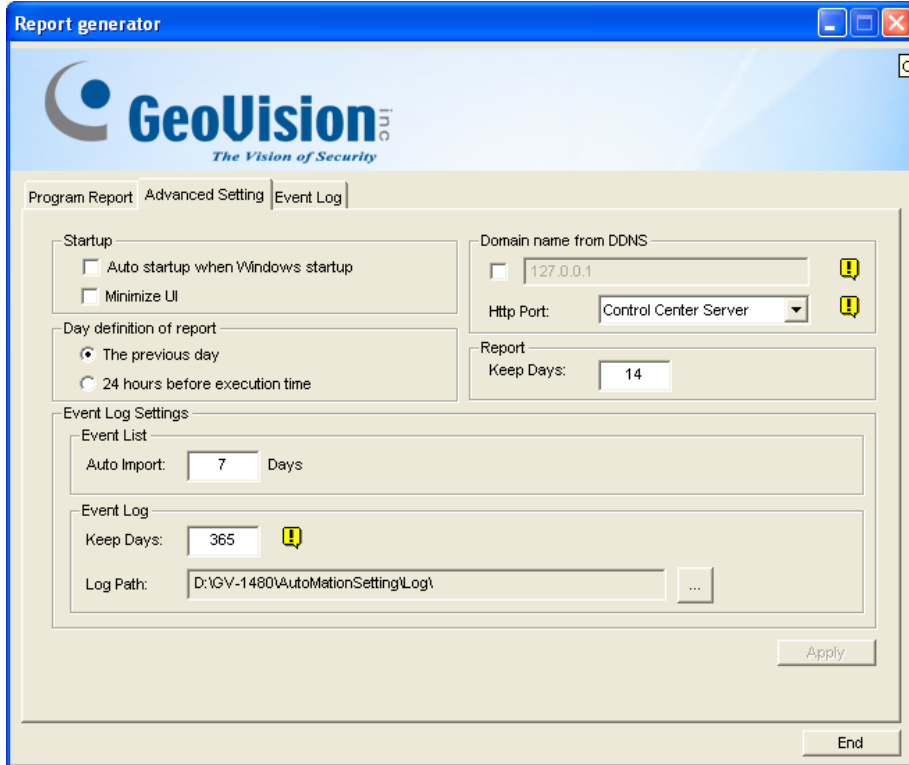

Figure 11-66
- ⊙ If you select **The Previous day** on the Advanced Setting tab (Figure 11-66), the report will be generated on the data of one day before your specified date. For example, you enter “12/10/2007” in the **Select Date** drop-down list. The report is generated on the data of 9th December 2007.
- ⊙ If you select **24 hours before execution time** on the Advanced Setting tab (Figure 11-66), the report will be generated on the data of 24 hours before your specified date
- ⊙ If you select **The Previous day** on the Advanced Setting tab (Figure 11-66), the generated report will contain the data of 7 days before your specified date. For example, you enter “12/10/2007” in the **Select Date** drop-down list. The report is generated on the date from December 3rd to 9th in 2007.
- ⊙ If you select **24 hours before execution time** on the Advanced Setting tab (Figure 11-66), the generated report will contain the data of 7 days counting back on your specified date and time. Specify the date and time by using the **Select Date** and **Select Time** drop-down lists. For example, if you enter “12/10/2007” and “01:00”, the report is generated on the time from 01:00 am, December 10th to 01:00 am, December 4th, 2007.
3. If the **Domain name from DDNS** option on the Advanced Setting tab (Figure 11-66) is not selected, this dialog box will appear.